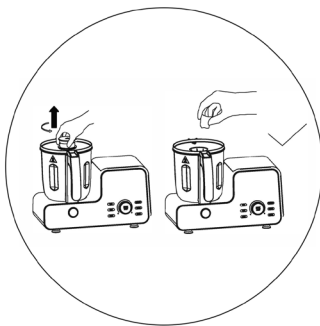

Fig.1
3. In the process of working, DO NOT open the cup lid to add any ingredient, otherwise, splashing would occur to cause injury accident or property loss, and the proper method is to open the measuring cup in the middle of the cup lid and then feed the ingredient through the cup hole. (see Figure 1)